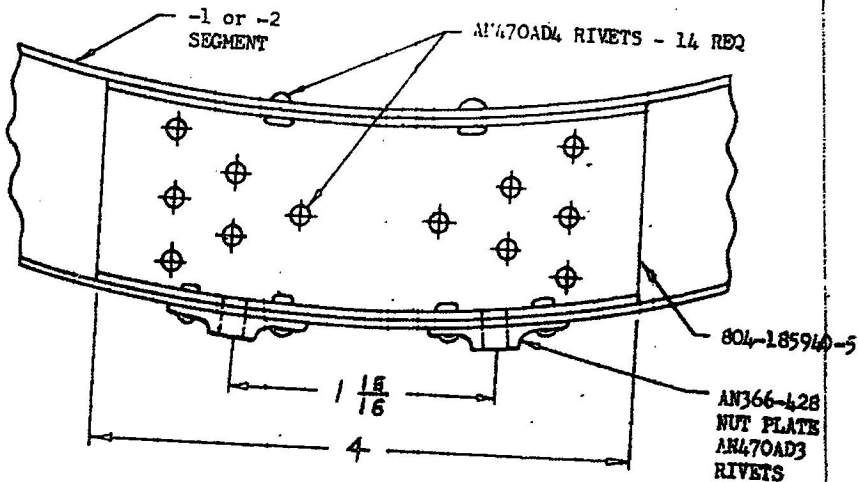

FIGURE 3
- (c) Former rings that have cracks or damage at any part of the -1 or -2 segments at the 804-185941 support assembly locations will be repaired as shown in Figure 3 of this specification.